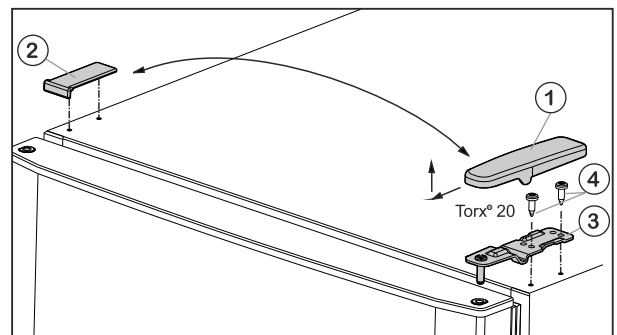

Fig. 6
- ▶ Pull the cover Fig. 6 (1) forwards and upwards.
- ▶ Lift off the cover Fig. 6 (2).
- ▶ Unscrew top bearing block *Fig. 6 (3)* (2x Torx® 20) *Fig. 6 (4)* and lift off in upward direction.
- ▶ Install the upper bearing block *Fig. 6 (3)* on the new hinge side and in the door.
- ▶ Screw in the upper bearing block **thightly (with 4 Nm)** (2x Torx® 20) *Fig. 6 (4)*. Use a cordless screwdriver if necessary.
- ▶ Slide on the cover *Fig. 6 (1)* on the opposite side from the outside and snap it into place.
- ▶ Slide on the cover *Fig. 6 (2)* on the opposite side from above until it snaps into place.